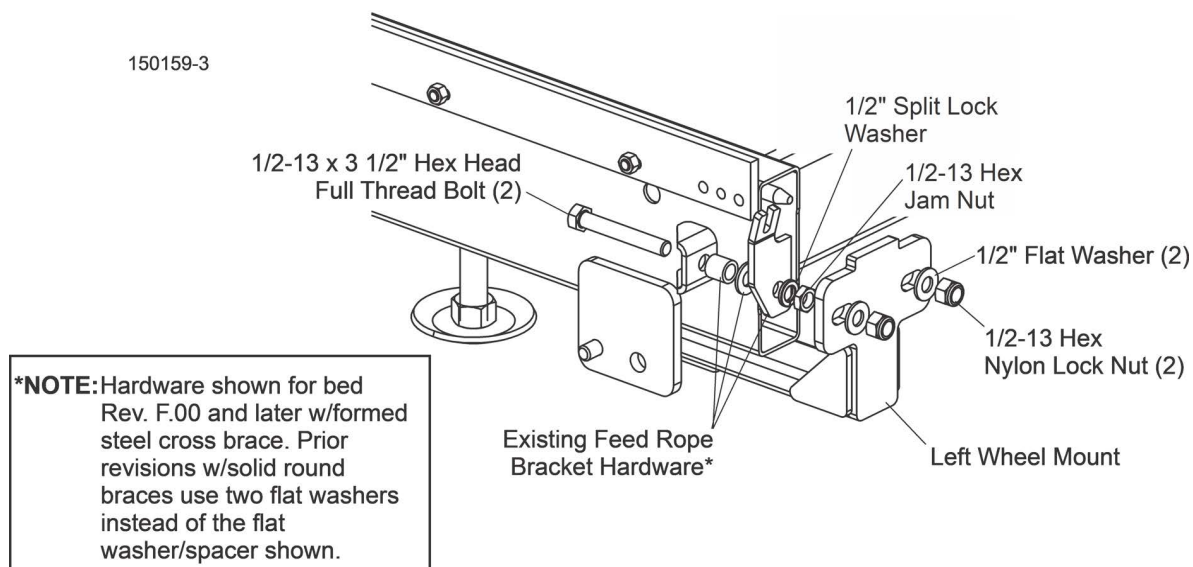

FIG. 1-3
8. After the wheel mount is installed, tighten the jam nut to secure the feed rope bracket against the bed cross brace and re-install the feed rope to the bracket. See Fig. 1-3.